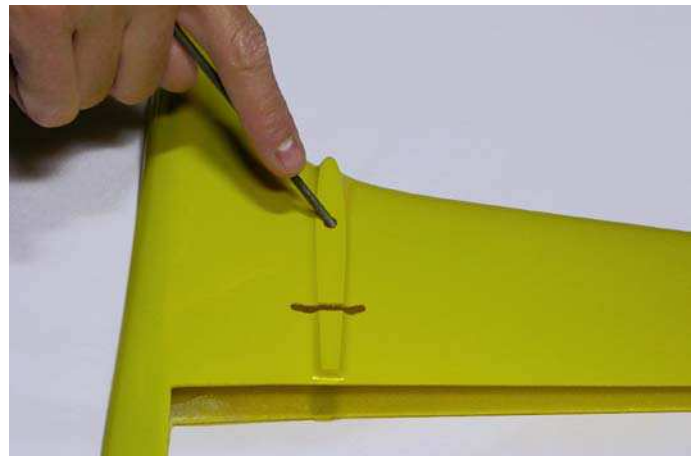

Fig.21: Correction of the holes alignment.
- the lower side of the hole where the bellcrank is up (see figure 21)